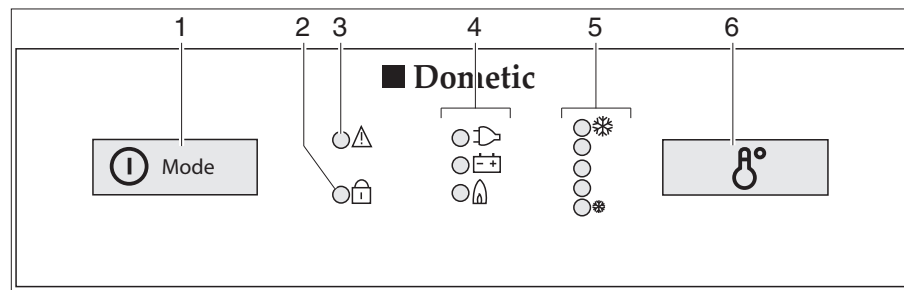

Fig. 319 Operating controls for the refrigerator (Dometic 8 series with MES)
- Press the on/off switch/energy selector switch (Fig. 319,1) down for 2 seconds in order to switch on the appliance. The LED of the operating mode chosen most recently lights up.
- If appropriate press the on/off switch/energy selector switch (Fig. 319,1) until the gas operating indicator "🔥" lights up. Gas supply is open. Ignition will take place automatically. A ticking sound can be heard until ignition has been completed successfully.
- Use switch (Fig. 319,6) to adjust refrigerating temperature.
- If appropriate press the on/off switch/energy selector switch (Fig. 319,1) several times until the operating indicator 240 V "" lights up.
- If appropriate press the on/off switch/energy selector switch (Fig. 319,1) several times until the operating indicator 12 V "" lights up.